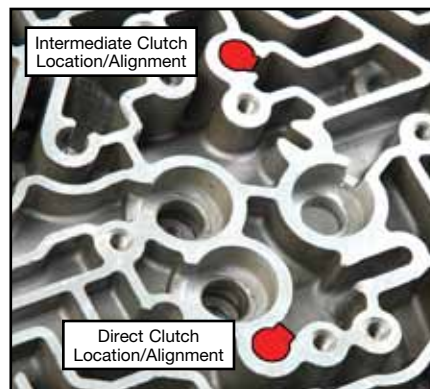

Figure 1
2. Align locator guide nub with slot in case and insert rubber seal into the intermediate feed port (see Figure 1).